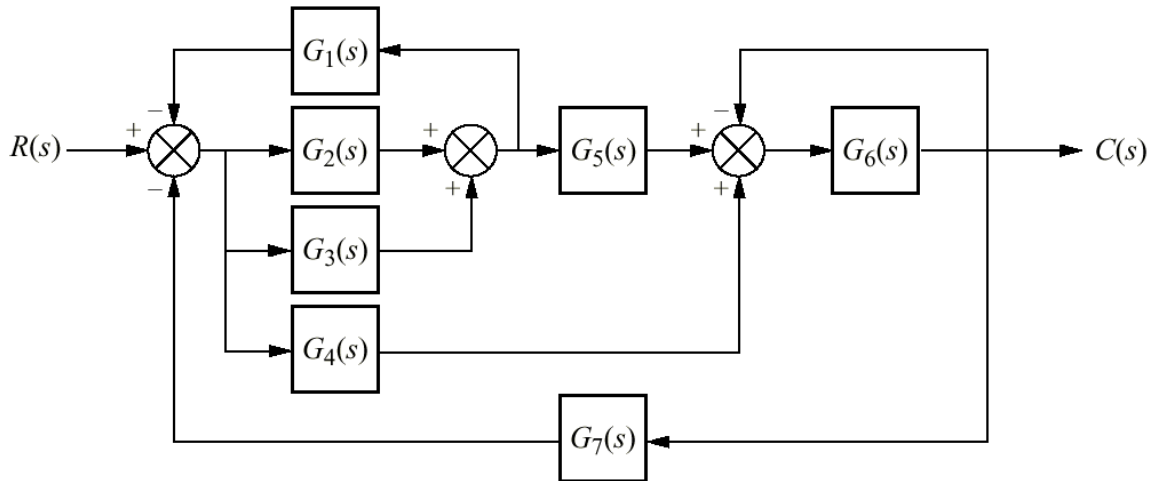

Figure 2: A block diagram of a system
- (a) Find the transfer function, $\frac{C(s)}{R(s)}$ for a block diagram of a system in **Figure 2** by using the block diagram reduction method.